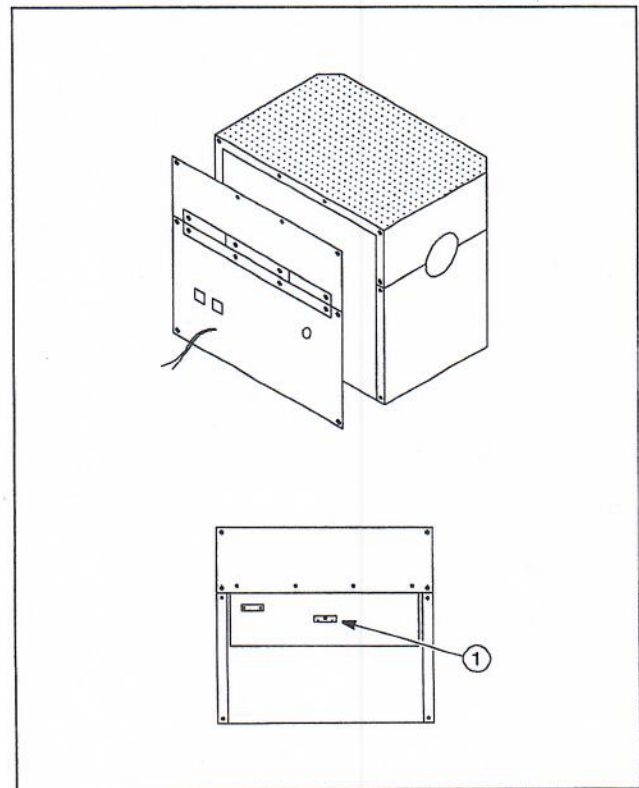

Figure 4. Thermocouple Replacement
Refer to Figure 4 as you perform the following procedure:
3. Remove the eight corner screws from the back furnace panel. Locate the thermocouple (item #1 in Figure 4).